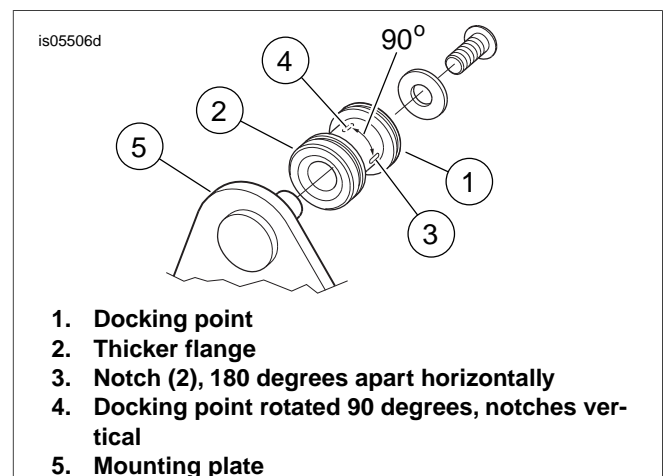
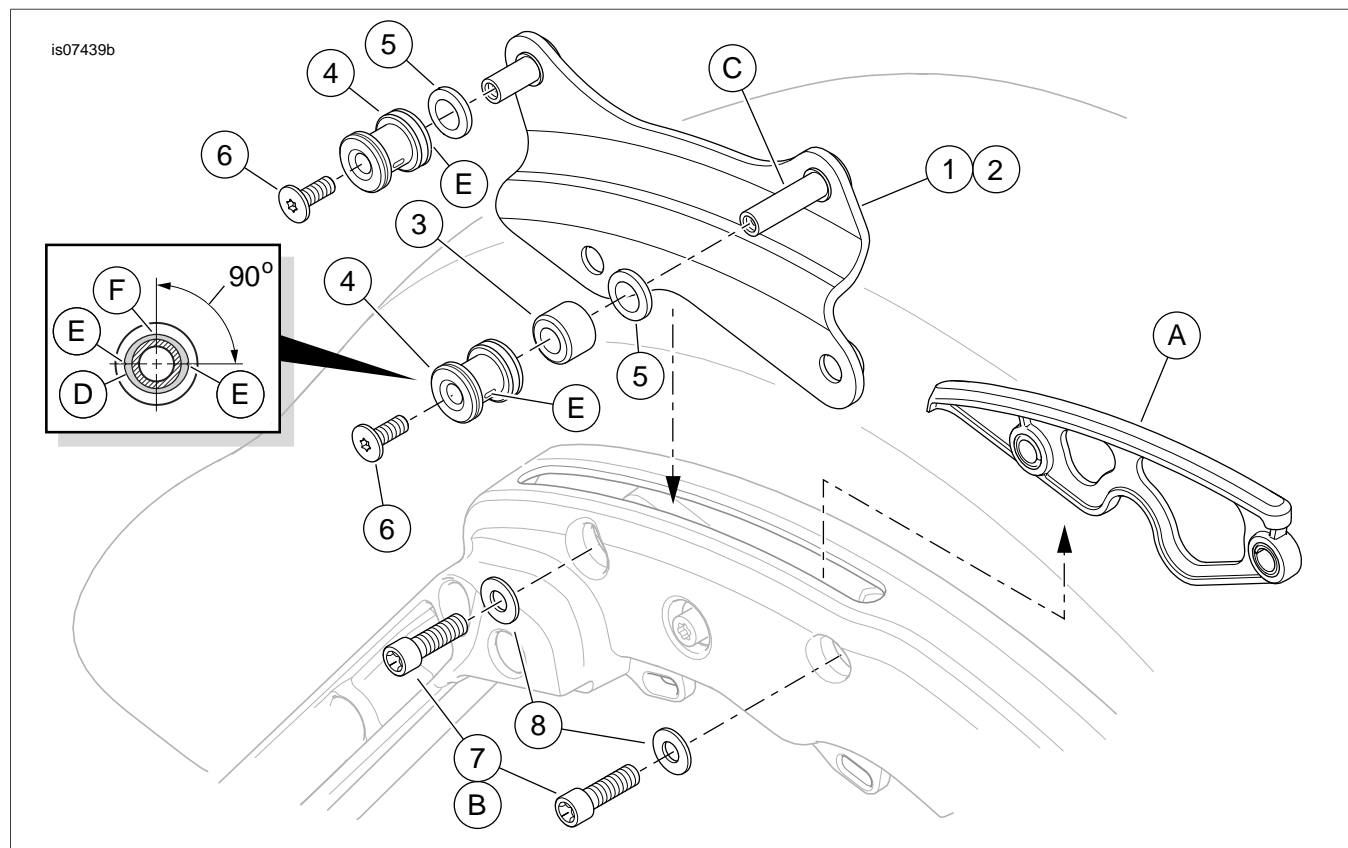

Figure 1. Docking Point Installation
Figure 2. Service Parts, Four-Point Detachable Docking Hardware Kit
See Figure 2 and Table 1.
2. See Figure 2. Remove two screws (B) from the saddlebag support on each side. Lift the slot cover inserts (A) from the slots in the supports.
See Figure 1.
6. See Figure 2. Slide a spacer (3) onto the longer pin (C) of each docking plate. Slide a docking point (4), **thicker** flange first, onto each docking plate pin.
7. Install the screws (6) into the docking plate pins. Rotate each docking point to position the notches horizontally (Figure 1, item 3). Tighten the screws until snug.
- b. See Figure 2. Remove screw (6) and docking point (4) from all four docking point pins.
- d. Apply 2 or 3 drops of Loctite 243 - Blue to the threads of each screw (6). Install screws. Rotate each docking point to position the insert notches horizontally (Figure 1, item 3). Tighten screws until snug.
- b. See Figure 2. Remove screw (6), docking point (4) and spacer (3) (if installed) from all four docking point pins.
- c. Install washers (5) to each docking point. Install spacer and docking point (**thicker** flange first) to each docking point pin.
- b. See Figure 1. Rotate the docking points (1) slightly away from horizontal until a tight fit is achieved at each location.
10. See Figure 2. Tighten the docking plate pin screws (6) to 10.5 ft-lbs (14.2 Nm).
1. See Figure 2. Record the current notch position for each docking point. Remove the screw (6) from all four docking point pins.
3. If the notches **are not** in vertical position (F), rotate the docking points slightly, moving the notches toward (F) until a tight fit of the detachable accessory is achieved at each location.
5. If the docking point insert notches **are** in vertical position (F):
- a. Remove the screw (6) from all four docking point pins.
- b. Rotate each docking point until the **second** notch reaches position (E).
- d. Check the detachable accessory at each docking point, rotating the notch toward (F) until a tight fit of the detachable accessory is achieved at each location. Tighten the screws to 10.5 ft-lbs (14.2 Nm).